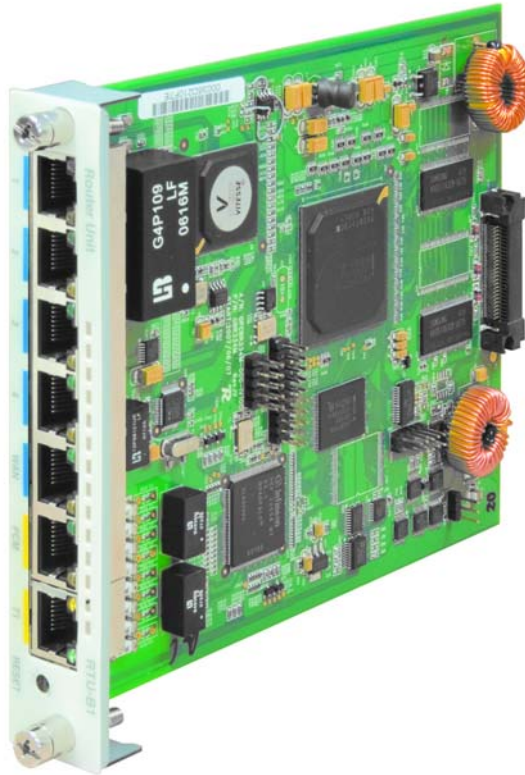

Figure 2-27: ROUTER BLADE
2.6.2 Router 4-Port (RTU) Blade (Figure 2-27) - P/N 0911062
2.6.3 Gigabit Ethernet PoE Switch (GSWU) (Figure 2-27) - P/N 0911066